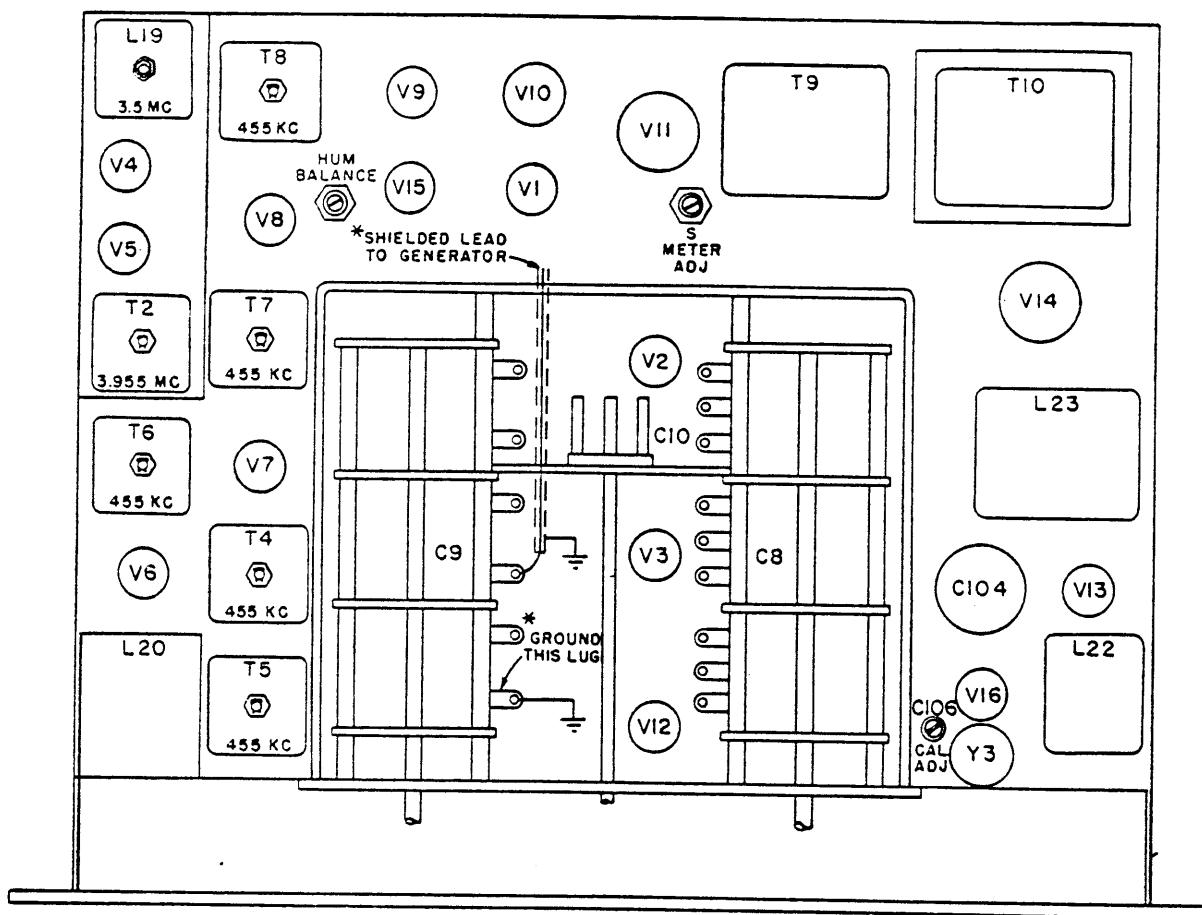

Figure 4-2. Receiver Chassis, Top View
b. As shown in Figure 4-2, ground one lug of main tuning capacitor and connect output lead from hf signal generator to other.
b. As shown in Figure 4-2, ground one lug of main tuning capacitor and connect output lead from signal generator to other.
c. In order, adjust i-f transformers T8, T7, T6, coil L20, and i-f transformers T5 and T4 (Figures 4-2 and 4-4) for maximum reading on vtv.
b. Adjust coil L19 (Figure 4-2) until some deflection of vtvvm is noted.
- d. In order, adjust i-f transformers T3 and T2 (Figures 4-2 and 4-4) for maximum deflection
4-22 To adjust HUM BALANCE control R94 (Figure 4-2) proceed as follows:
e. Adjust S METER ADJ control on top of receiver chassis (Figure 4-2) for S-meter reading of S-9.